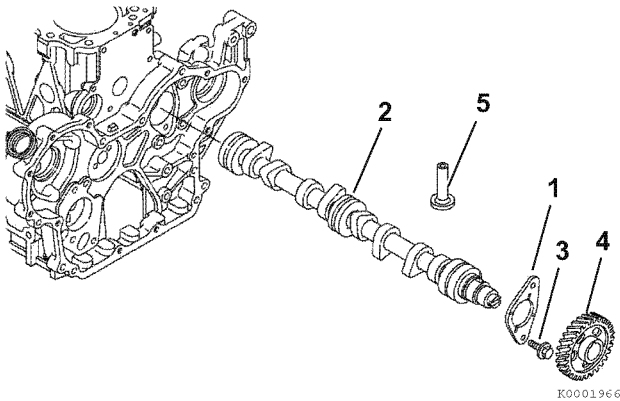

Figure 6-97
- Remove the two bolts (Figure 6-97, (3)) retaining the camshaft thrust plate (Figure 6-97, (1)).
- Rotate the engine in the engine stand so that gravity causes the tappets (Figure 6-97, (5)) to drop away from the camshaft lobes.
- Slowly pull the camshaft (Figure 6-97, (2)) assembly out of the engine being careful not to damage the front camshaft bushing.
- Remove the camshaft drive gear (Figure 6-97, (4)) only if the gear or camshaft require replacement. Use a knife-edge puller and a press to remove the gear. The gear is a shrink-fit and will need to be heated to 356 - 392 °F (180 - 200 °C) to remove.